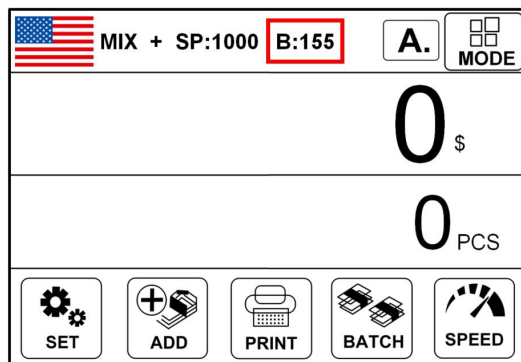

Figure 50
3) Under interface Figure 49, click “✓” on right corner, the machine will jump back to main interface, and the current batch value will be changed into 155 too, as Figure 50 shows.